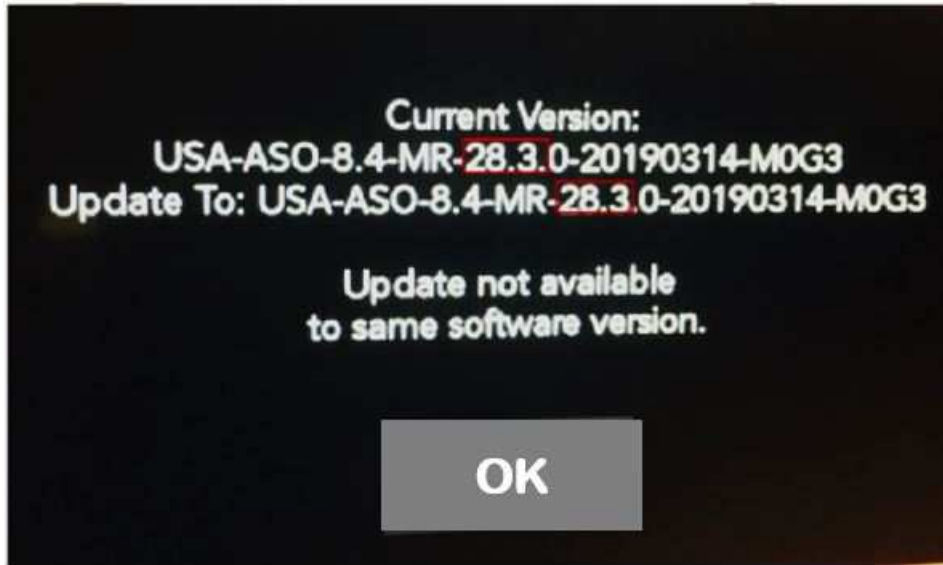

Fig. 11
16. Once the update has completed, the radio will reboot. With the USB flash drive still inserted in the USB port and the ignition in the "RUN" position, the screen in (Fig. 11) will be displayed. Press "OK" and remove the USB flash drive.